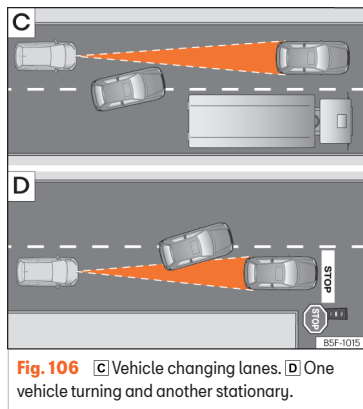

Fig. 106 [C] Vehicle changing lanes. [D] One vehicle turning and another stationary.
- Vehicles that move into your lane, a short distance from your vehicle >>> Fig. 106 [C].
The ACC does not react to stationary vehicles. If, for example, a vehicle detected by the ACC turns or moves over and there is a stationary vehicle in front of it, the ACC will not react to the second vehicle >>> Fig. 106 .